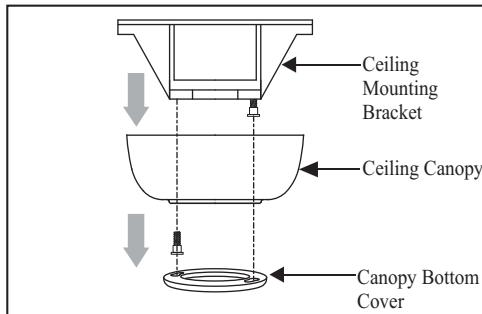

Figure 7
1. Remove the decorative canopy bottom cover from the canopy by turning the cover counter clockwise. (Figure 7)
2. Remove the mounting bracket from the canopy by removing the 1 of 2 screws from the bottom of the mounting bracket and loosening the other one a half turn from the screw head. Next, turn the canopy counter clockwise to remove the mounting bracket from the canopy. (Figure 7)